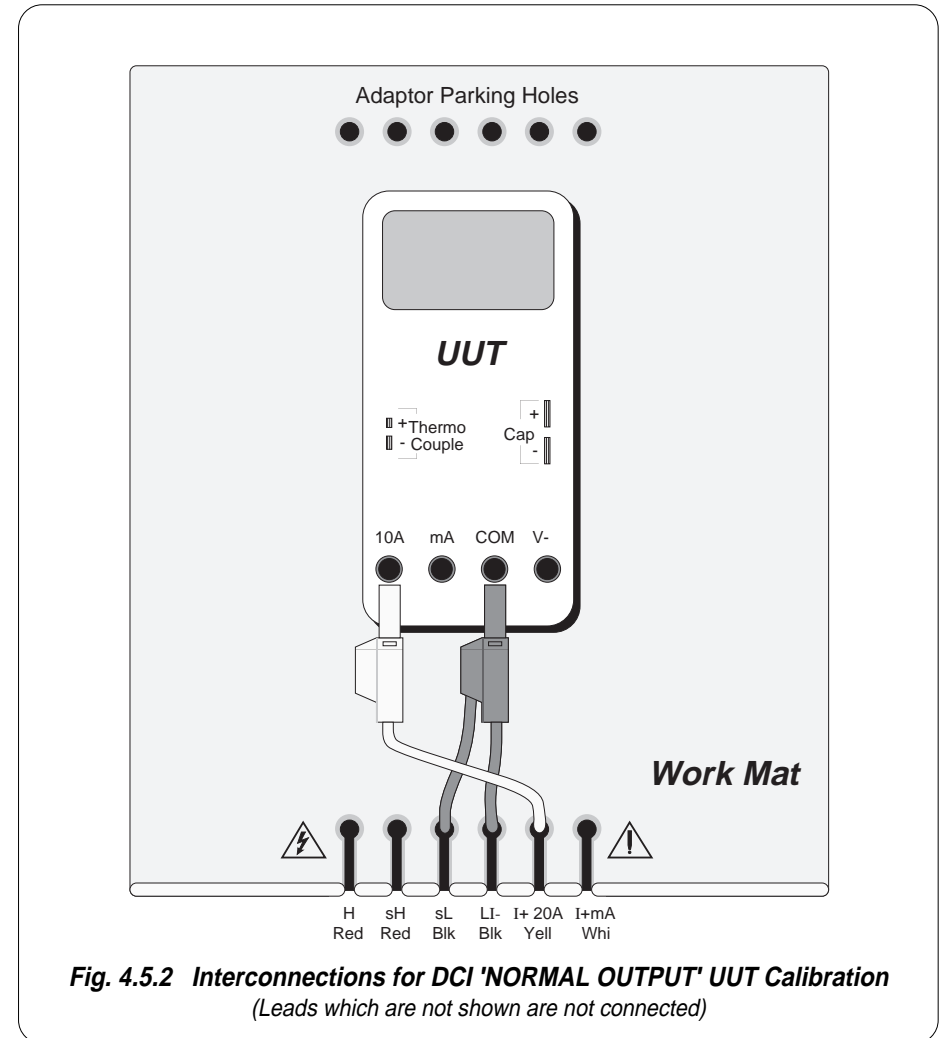
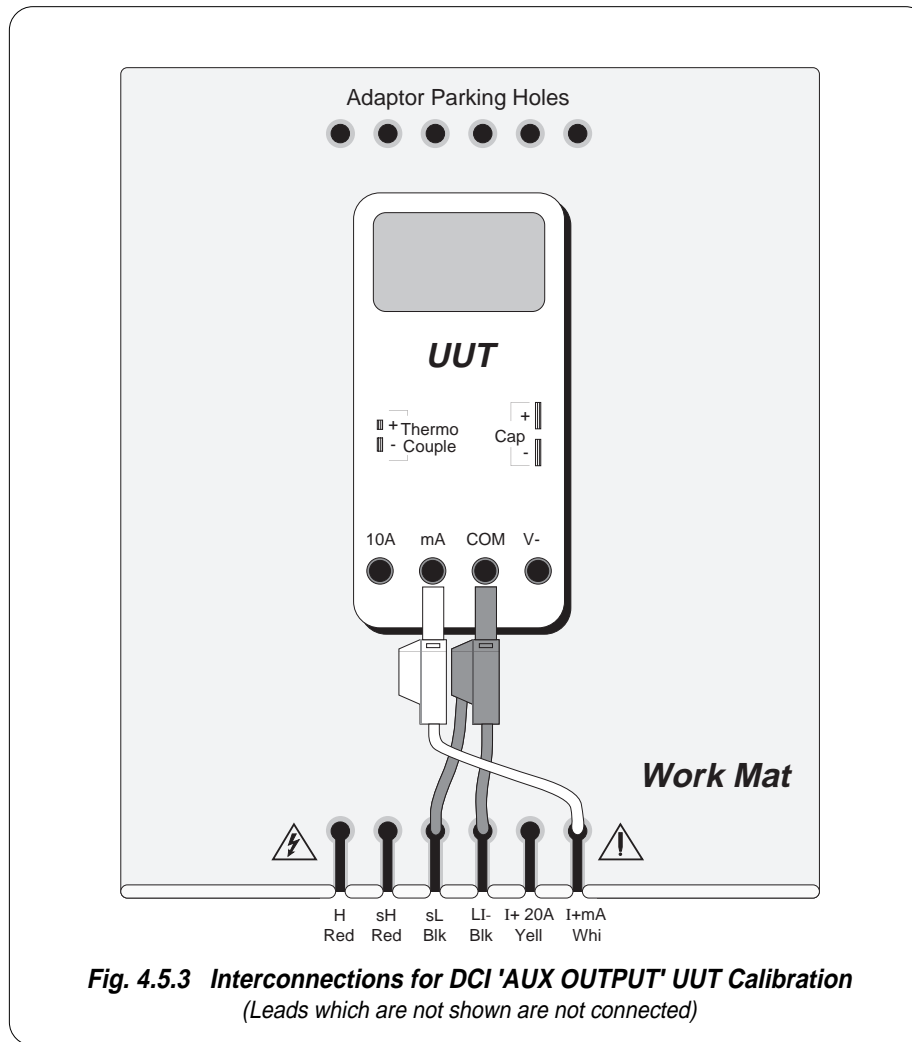

Fig. 4.5.2 Interconnections for DCI 'NORMAL OUTPUT' UUT Calibration
Fig. 4.5.3 Interconnections for DCI 'AUX OUTPUT' UUT Calibration
The general connection schemes for UUT calibration of DC Current Function are illustrated in *Figs. 4.5.2, 4.5.3 and 4.5.4.*
1. **Connections** Connect the 9100 to the UUT as shown in *Fig. 4.5.2* (Normal Output), *Fig. 4.5.3* (Aux Output) or *Fig. 4.5.4* (Current Coil Output), and ensure that both instruments are powered ON and warmed up.
1. **9100** Use the front panel controls to set the 9100 Output current to the UUT cal point value, and select the form of output (SELECT OUTPUT key). Reconnect (*Fig. 4.5.2, 4.5.3 or 4.5.4*) as required.